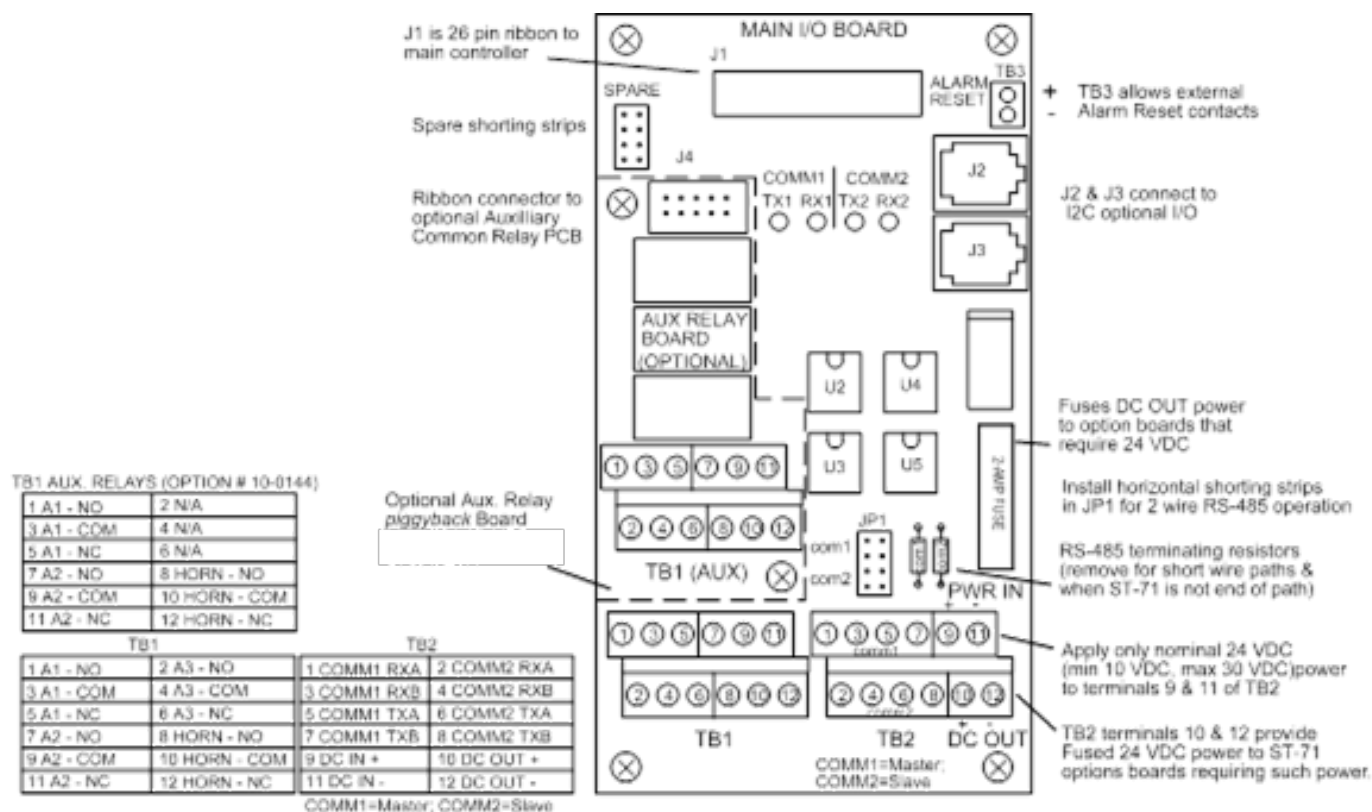
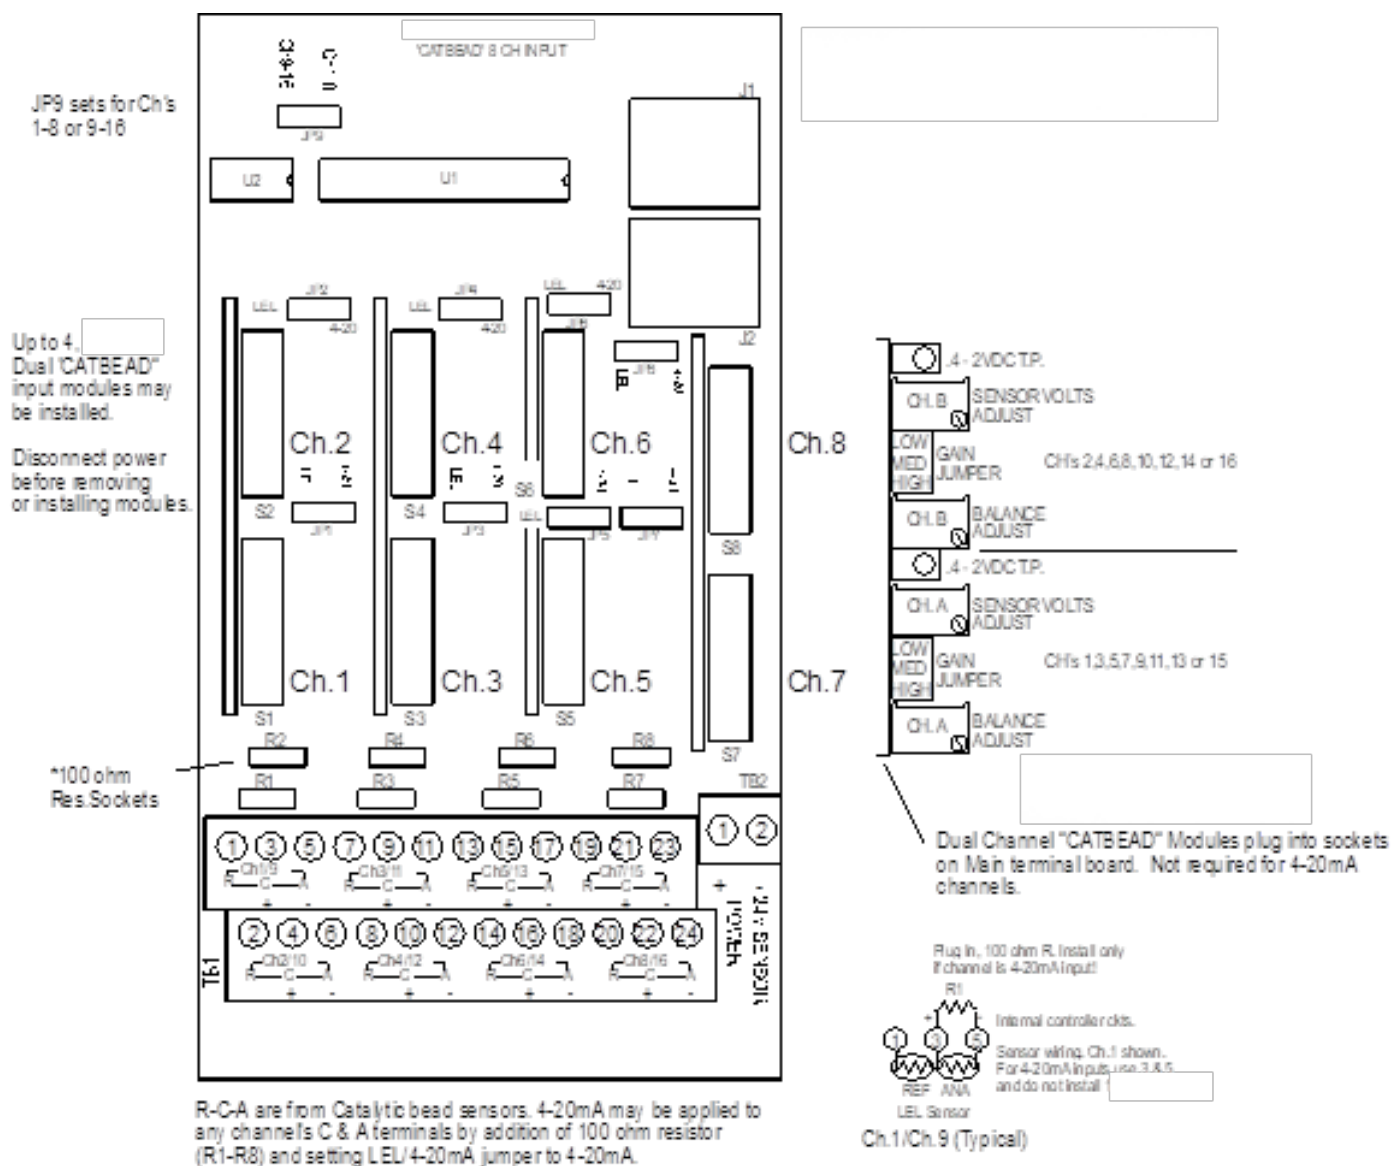
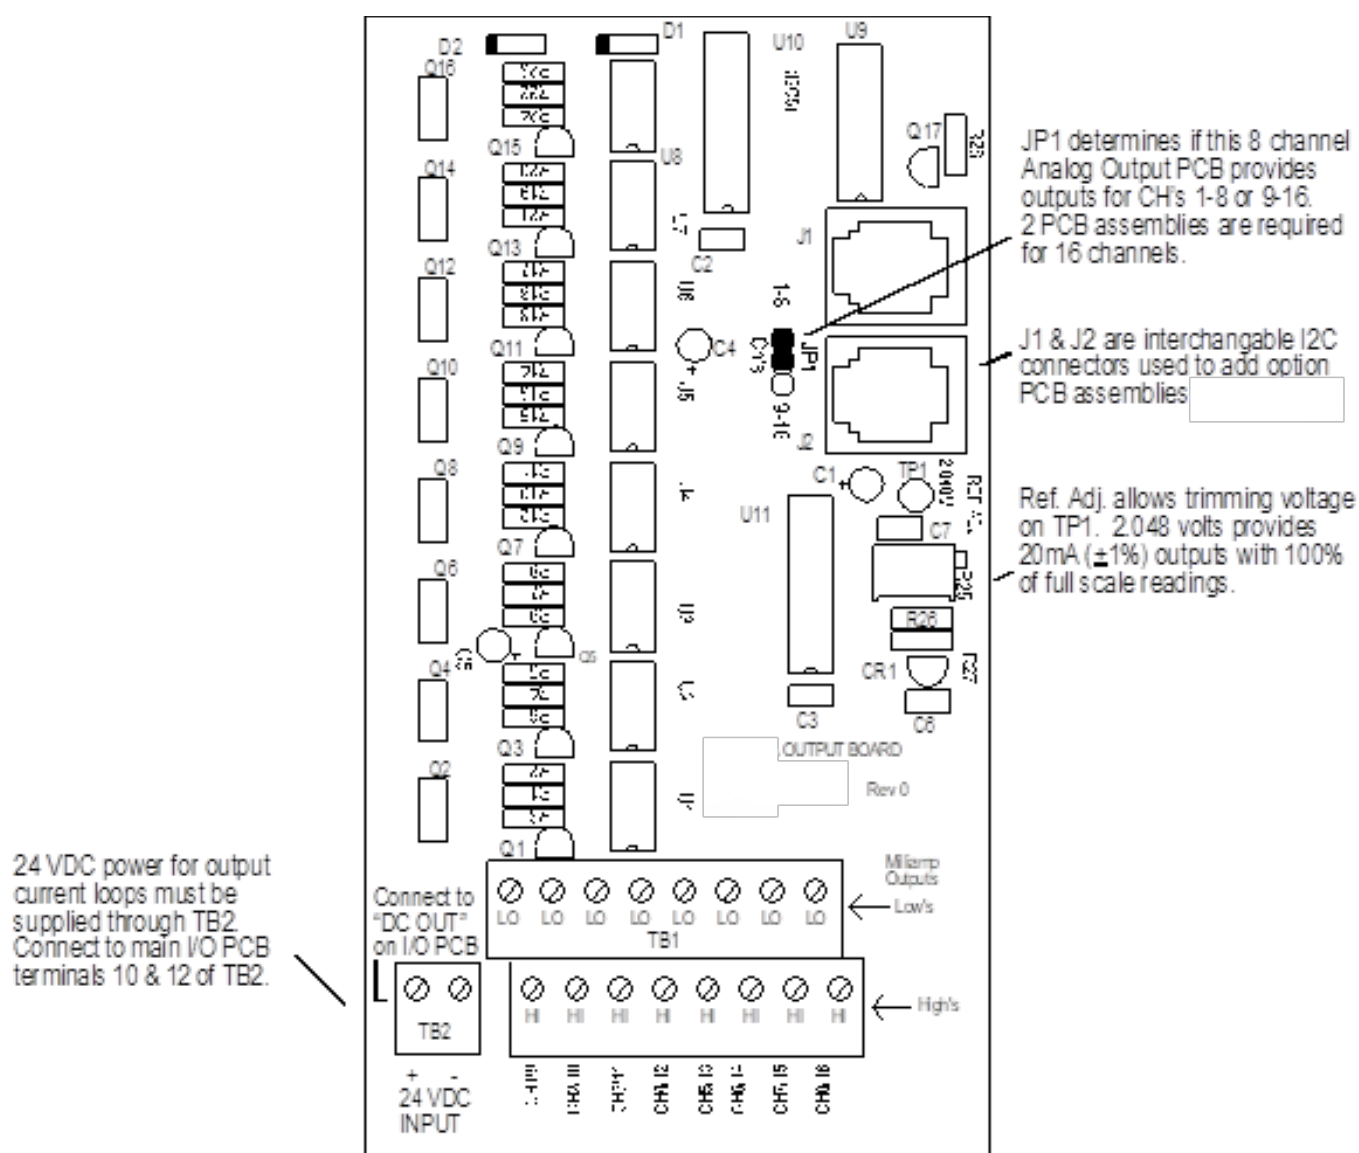

Figure 3.1
Figure 3.5
Figure 3.7
The most basic C-16 Controller requires only the I/O PCB shown in Figure 3.1 for interfacing to field wiring. The C-16 primary power supply is applied to terminals 9 & 11 of TB2. This may be from 10 – 30 VDC. **WARNING! HIGH VOLTAGES SUCH AS 115 VAC APPLIED TO THESE TERMINALS MAY CAUSE SEVERE DAMAGE!** DC output terminals 10 & 12 on TB2 provide up to 500mA of output power for powering remote devices such as lamps, transmitters etc.
An optional Auxiliary Relays piggyback PCB may be added to the I/O PCB via ribbon cable J4. These add another form C contact set to the common A1, A2 and HORN alarms. Auxiliary Relay contacts are available at the TB1 (AUX) terminals shown in Figure 3.1.
1. Prior to connecting sensors, apply power to the system. Note this PCB requires 24VDC power be connected to its TB2 terminals 1 & 2 as shown in Figure 3.5. Suitable fused power is available from the Main I/O board's TB2 terminal 10 & 12 (see Figure 3.1). Measure the voltage between each channel's A and R terminals and set the Voltage Adjust potentiometers for the correct sensor excitation voltage. This may range from 1.5 volts to 7.5 volts depending upon sensor specifications.
An optional 10 bit 4-20mA analog output board, shown in Figure 3.7, may be connected to the I2C bus. Each channel's output will transmit 4mA for 0% readings and 20mA for 100% readings. Loop drive capability depends upon the level of the C-16's primary DC power supply. With at least 20 volts DC primary power they are capable of driving 20mA through a 750 ohm load. Outputs are self-powered and DC power should not be provided by the receiving device. Note: This PCB requires nominal 24VDC power be connected to TB2 terminals 1 & 2 as shown in Figure 3.7. Suitable power is available from the C-16 Main I/O board's TB2 terminal 10 & 12 (see Figure 3.1).